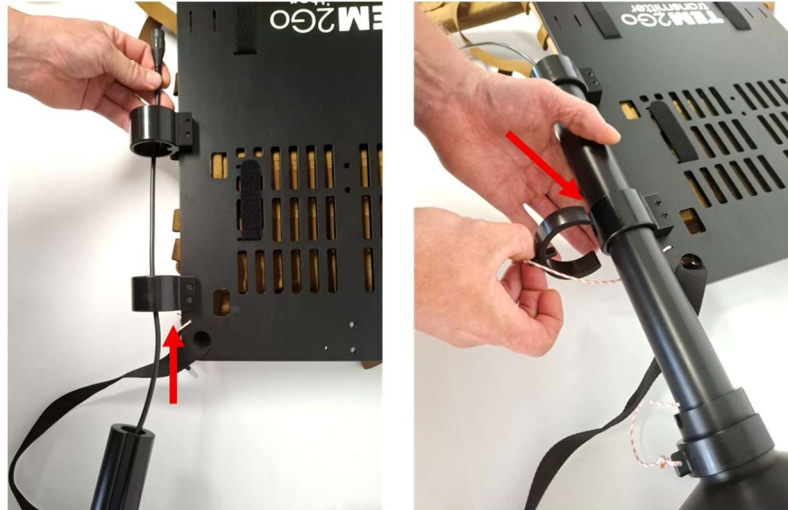

Figure 18: Insert (left) and secure (right) the Tx mast onto the transmitter backpack.
3. Insert the Tx mast and pole into the designated bracket, using the track as guidance. Once in place, secure it with the clip provided on the backpack (Figure 18).